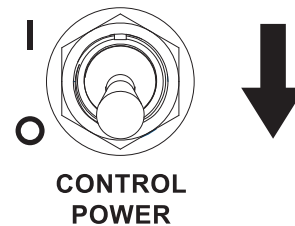

Figure 3-27. Controller Power—OFF (O)
5. See Figure 3-27. Switch controller power switch to OFF (O).